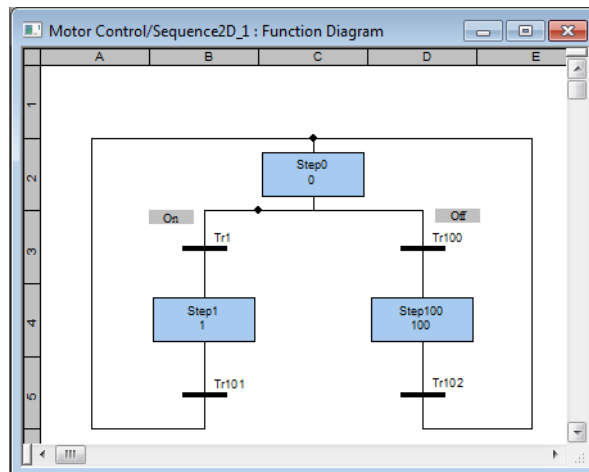

Figure 43. Overview Diagram
11. Add two transitions (**Tr101** and **Tr102**) and complete the workflow as shown in Figure 43.